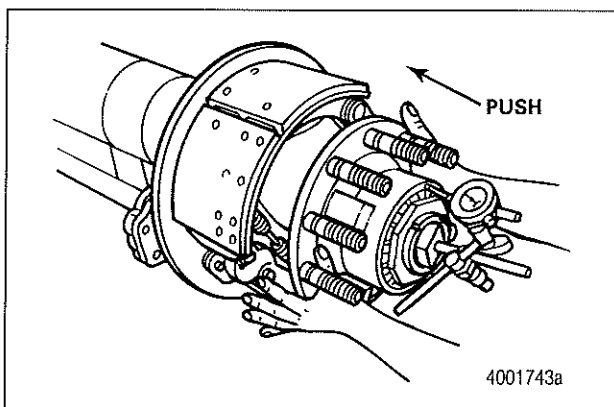

Figure 28
- B. Slightly rotate the wheel end in both directions while pushing inward until the dial indicator does not change. Set the dial indicator to ZERO. Figure 28.